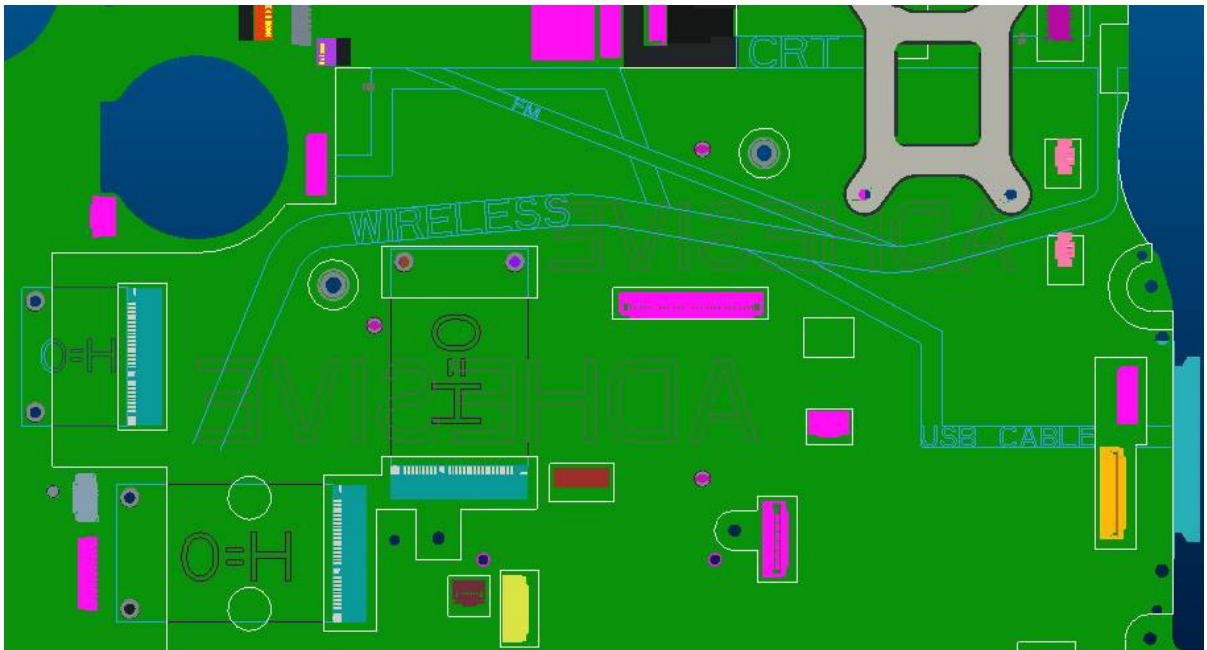

Figure 4-10-3 Cables layout on motherboard
3. Put the **wireless LAN antenna cable** on the right location from the guide (Antenna cable locate top, USB cable locate bottom and FM cable locate middle).Stick the tape of cable on the surface. If fail to stick, replace tape with new adhesive tape.(see Figure 4-10-3)
3. Put the **TV antenna cable** on the right location from the guide(see Figure 4-10-3)